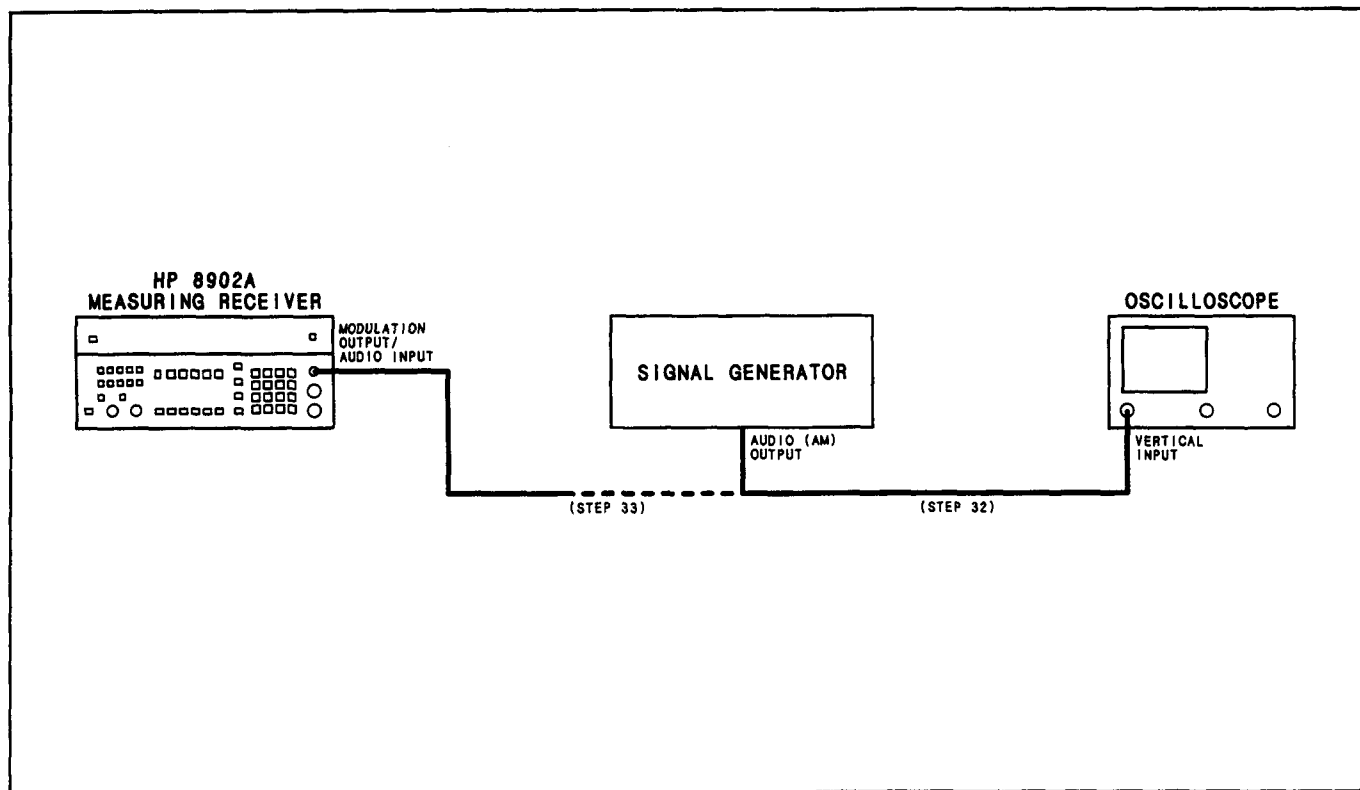

Figure 3-10. External Audio RMS Level Check Setup
32. Connect the audio (AM or trigger) output of the signal generator to the input of the oscilloscope. (See Figure 3-10.) Set the signal generator's audio output level for 3 V_{pp} as read on the oscilloscope.
33. Connect the audio output of the signal generator to the MODULATION OUTPUT/AUDIO INPUT of the Measuring Receiver. (See step 33 of Figure 3-10.) Key in 30.0 and press the SPCL key. If the display is in dB V, press the LOG/LIN key to display V. The Measuring Receiver's displayed level should be between 0.95 and 1.17V.